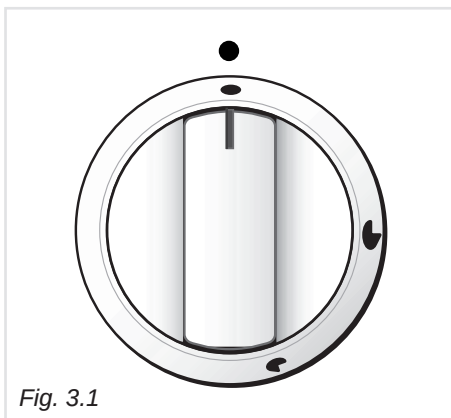
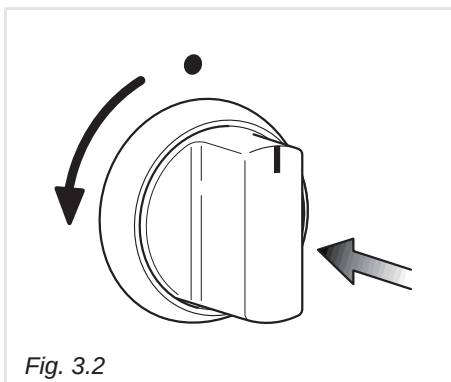

Fig. 3.1
Fig. 3.2
Each burner is controlled by a gas tap (fig. 3.1) assuring the opening and the closing of the gas supply.
- 1. Press in the corresponding knob and turn counter-clockwise (fig. 3.2) to the full flame position marked by the (full on) symbol (fig. 3.1).